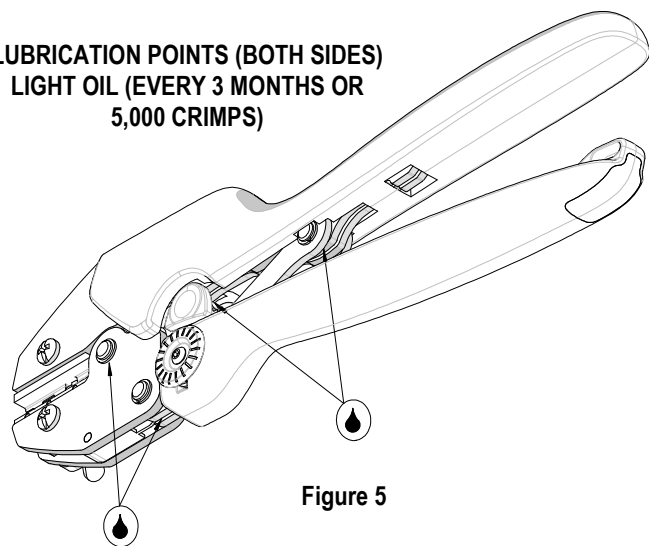

Figure 5
3. Make certain all pins; pivot points and bearing surfaces are protected with a thin coat of high quality machine oil. Do not oil excessively. This tool was engineered for durability, but like any fine piece of equipment it needs cleaning and lubrication for a maximum service life of trouble-free crimping. A light oil, such as 30 weight automotive oil used at the oil points shown in Figure 5, every 5,000 crimps or 3 months, will significantly enhance the tool life and ensure a stable calibration.